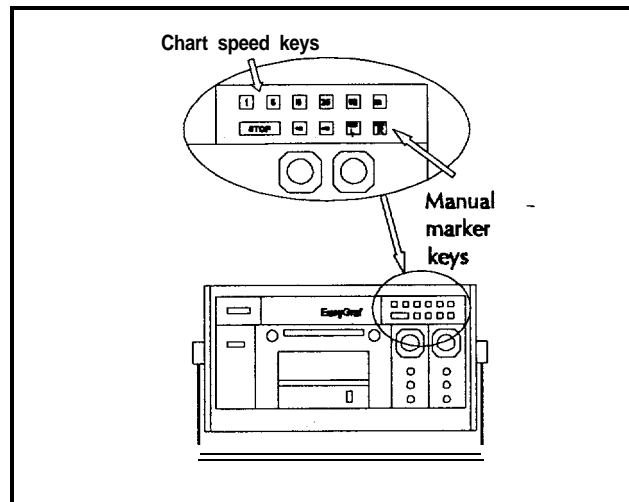

Figure 2
2.2.2 Chart Speed Control - The upper right side of the front panel, Figure 2, contains all the chart speed controls (1, 5, 10, 25, 50, **100 mm/lsec, divide-by-60, divide-by-100, MARK L, MARK R, and Stop**). The chart speed keys control the speed of the thermal array printer and the printing of the waveforms on paper. Pressing the STOP key with the chart already stopped will form feed one sheet of paper.